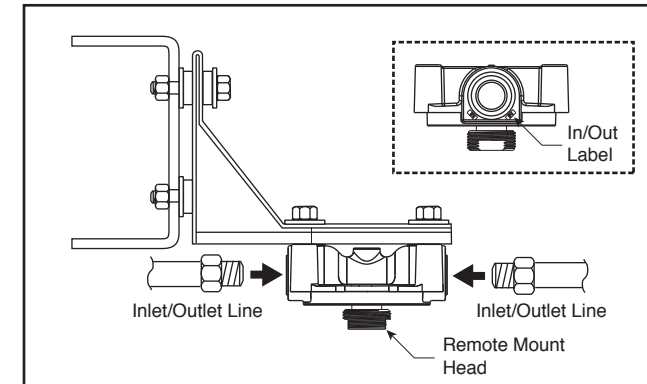

Figure 4 – Installing the Inlet and Outlet Lines
2. Connect the fuel inlet line to the port labeled “IN” and the fuel outlet line to the port labeled “OUT,” as shown in Figure 4. The direction of flow through the head is indicated both on the top and sides of the Remote Mount Head.